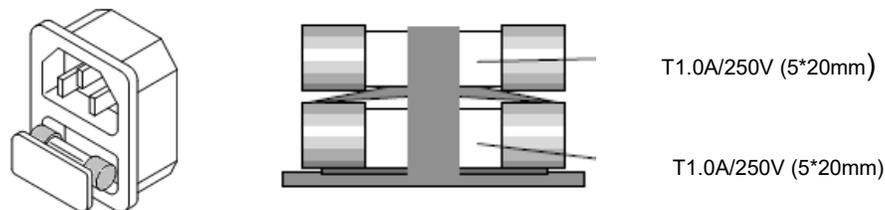

Fig 2-1 FUSE RECEPTACLE
- 2-2.2 The AC line fuse is located below the AC line receptacle (see Fig 2-1). Use A small screwdriver to remove the fuse holder. Replace the failed fuse.